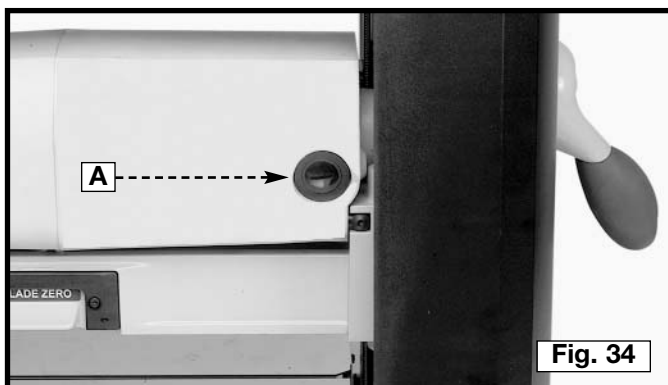
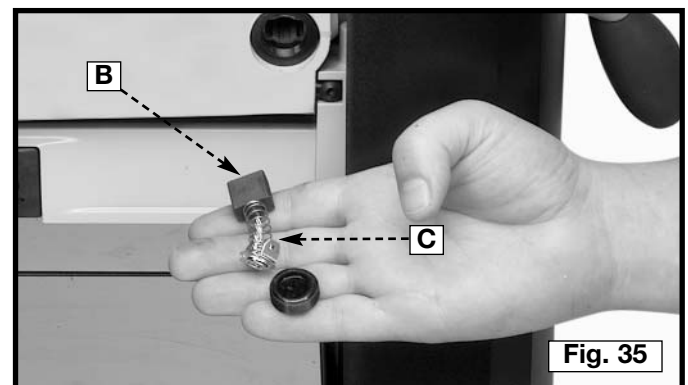

Fig. 34
Fig. 35
The brush holders, one of which is shown at (A) Fig. 34, are located on the motor housing opposite each other. One of the removed brushes is illustrated in Fig. 35. When the carbon (B) on either brush is worn to 3/16" in length or if either spring (C) or shunt wire is burned or damaged, replace both brushes. If the brushes are found serviceable after removing, reinstall them.